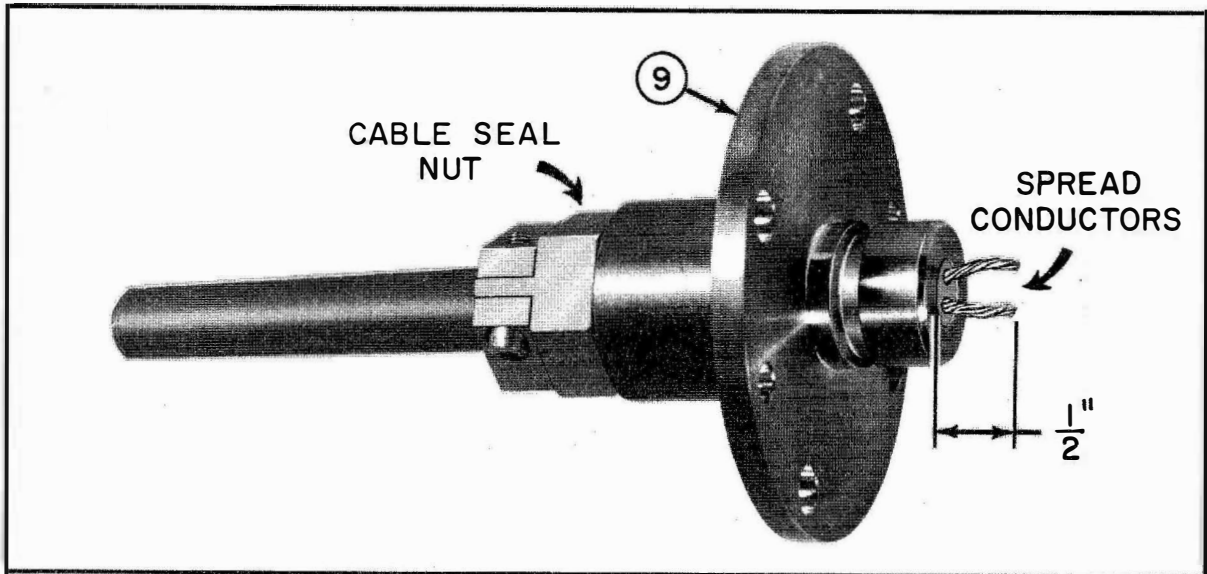

Figure 5-11c. Male Body Assembled and Dielectric Removed
Step 4. - Insert the cable seal nut assembly into the male body, piece 9, and tighten. Using the smaller end of the male body as a guide cut the dielectric away from the two inner conductors. Cut the inner conductors 0.5 inch in length (see figure 5-11c.).